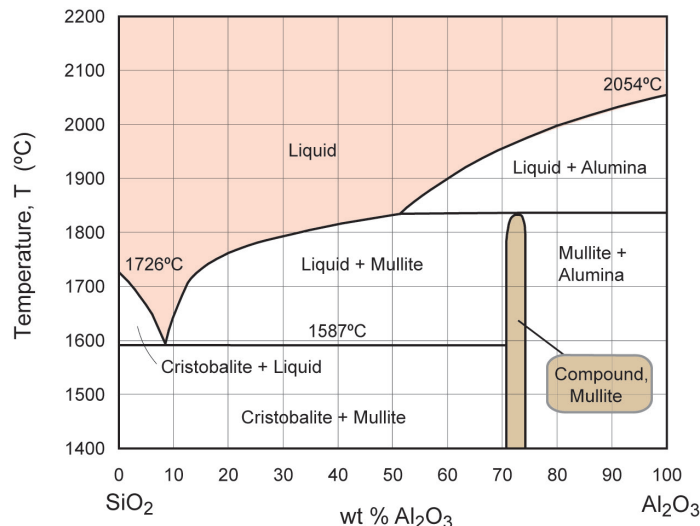

Figure 10: Phase diagram for the binary ceramic silica-alumina (SiO_2 - Al_2O_3) system
16. Use the phase diagram for the SiO_2 - Al_2O_3 system in Figure 10 to answer the following: